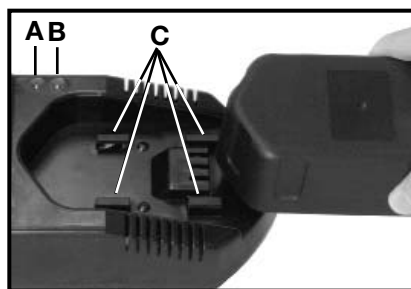
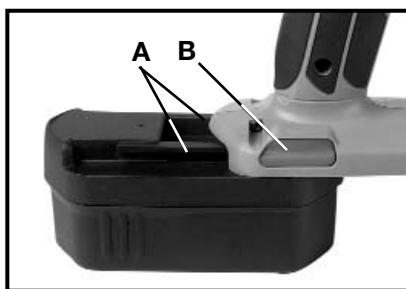

Fig. 1
Fig. 2
Position the battery pack on charger, align the rails on the battery pack (A) Fig. 2 with the four tabs (C) Fig. 1 on the charger. Slide the battery forward on charger until it stops.
The green light (A) Fig. 1 should begin to flash rapidly indicating that the battery pack is receiving a "fast charge". (If the green light does not flash or if the red light (B) illuminates, see **DIAGNOSTICS**). After approximately one hour, the "Fast Charge" indicator light should glow continually, indicating that the battery pack is fully charged and that the charger is now in a "Maintenance Charge" mode. The battery pack can be left on "Maintenance Charge" until you are ready to use it.
TO INSTALL BATTERY PACK: Align rails (A) Fig. 2 on battery pack with slots on tool and push battery pack onto tool until it locks in place.
TO REMOVE BATTERY PACK: Depress the battery release button (B) Fig. 2, and pull battery pack out of tool.